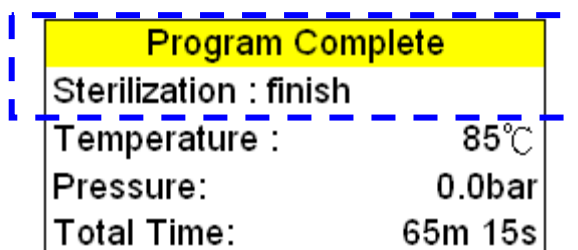

Figure 90– Program Complete
- K. On completion, the buzzer will sound and the Program Complete message is displayed as shown in Figure 90– Program Complete.
- E. On completion, the buzzer will sound and the Program Complete message is displayed as shown in Figure 90– Program Complete.